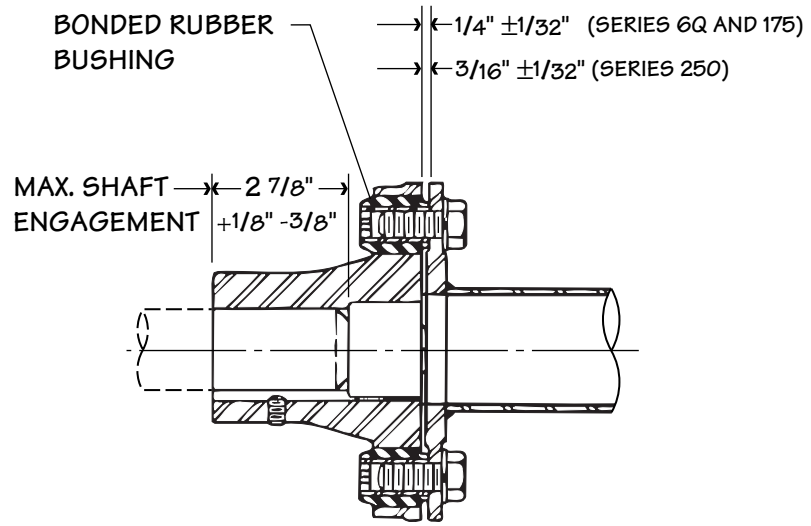

Figure 4 250 Series shown
until the total indicator reading at each end is within .005". Tighten all mounting bolts on the motor and Geareducer, and recheck alignment. Maintain gap between face of flange and face of yoke as shown in Figure 4.
8. If the motor has been moved back to permit removal of the tube and flange assembly, reposition the motor, being sure that flange spacing is maintained. See Figure 4. Tighten the $\frac{5}{8}$ " machine bolts or cap screws to 60 ft·lbf (82 N·m) torque. For the 6Q and 175 Series driveshaft, use an Allen wrench to prevent bushing from rotating in its socket. Recheck driveshaft alignment and tighten motor mounting bolts.